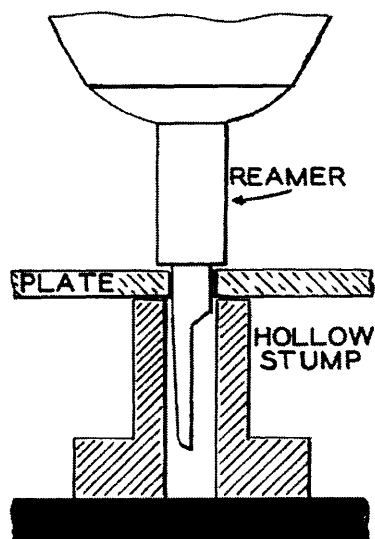

Fig. 14-12
5. Run reamer **completely** through the plate or bridge. Figure 14-12. These reamers are self-centering and cut slowly.